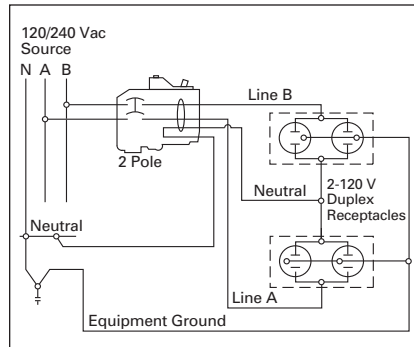
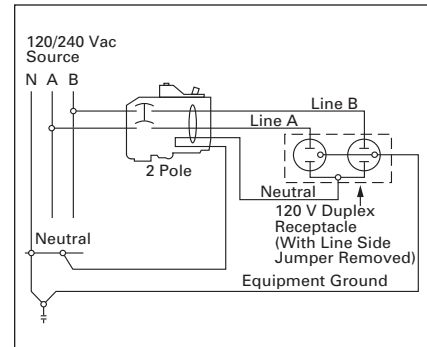

Figure 3-3. 1-Pole Shared Neutral with Multi-Duplex Receptacle Application
Figure 3-5. 2-Pole Shared Neutral with Duplex Receptacle Application
- ② Independent trip refers to 2-pole multi-wire, home run or shared neutral circuits (see Figure 3-3 and Figure 3-5).